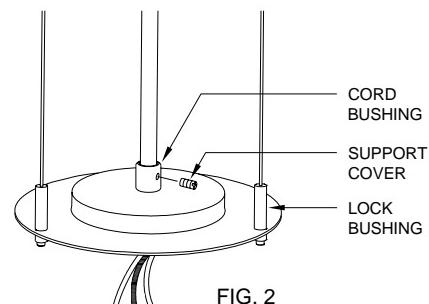

FIG. 2
3. Push excess POWER CORD down, and have it loose above SUPPORT COVER to ensure the power cord is not supporting the support cover and cylinder; leave enough length for restripping the cord. Cut excess at the end of POWER CORD and restrip the ends. Tighten SET SCREW into CORD BUSHING to secure POWER CORD. (Fig. 2)